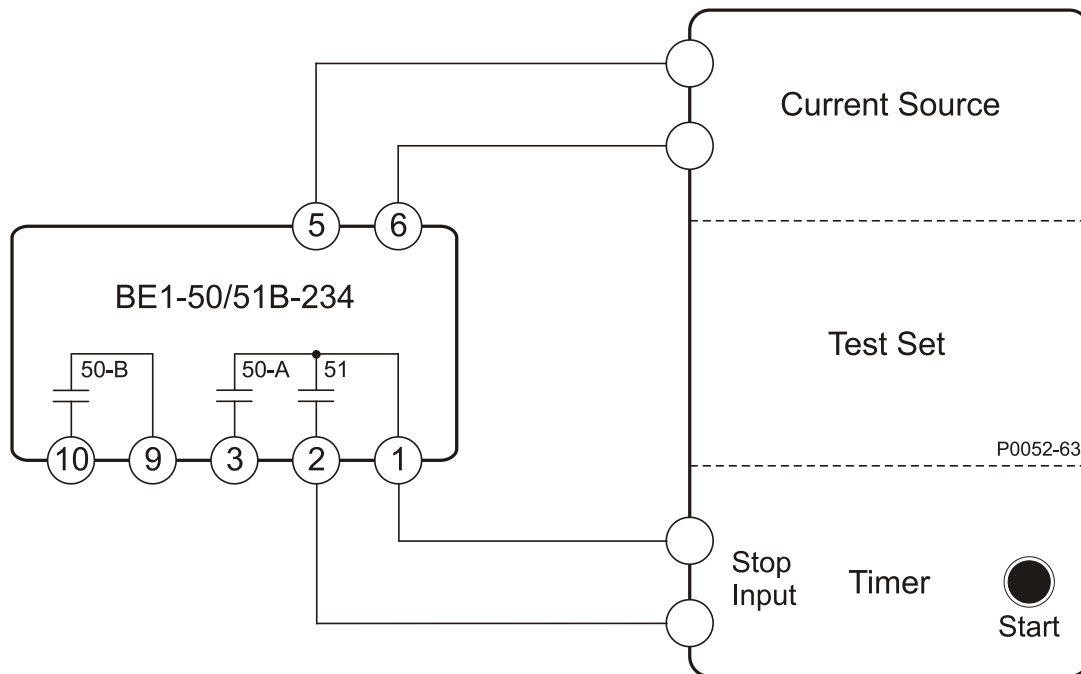

Figure 5-5. 51 Pickup, Time Dial, and Integrating Reset Test Setup
- a. Connect the test setup shown in Figure 5-5.
- a. Connect the test setup as shown in Figure 5-5.